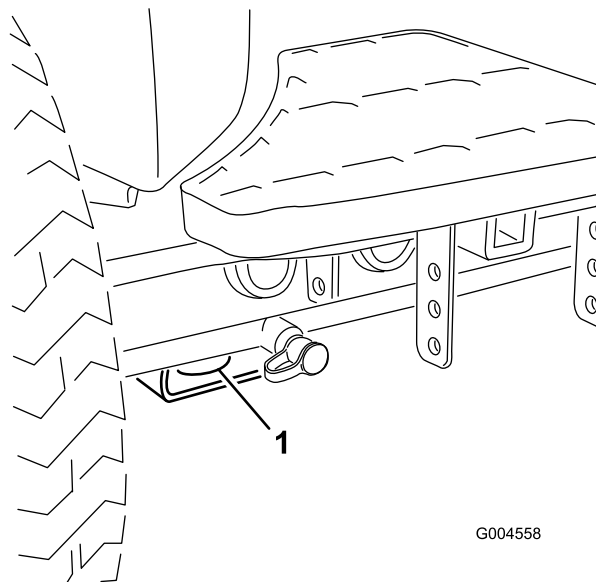

Figure 24
- Front—the hole in the rectangular pad, under the axle tube, inside each front tire (Figure 24).